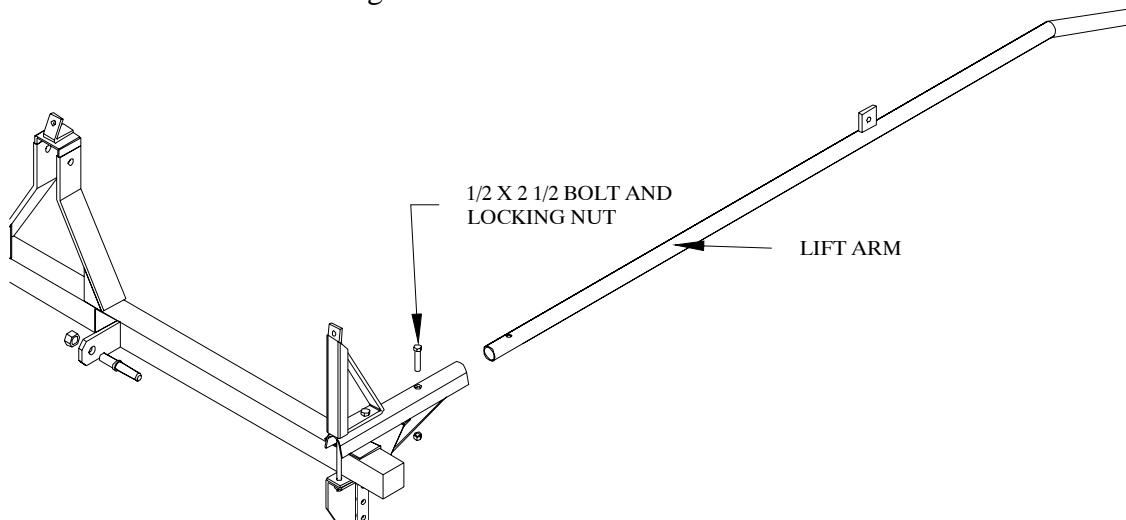

Figure 1
1. Slide a lift arm into each of the saddles on the toolbar and bolt into place using $\frac{1}{2}$ x $2\frac{1}{2}$ bolts and lock nuts. Refer to figure 1.